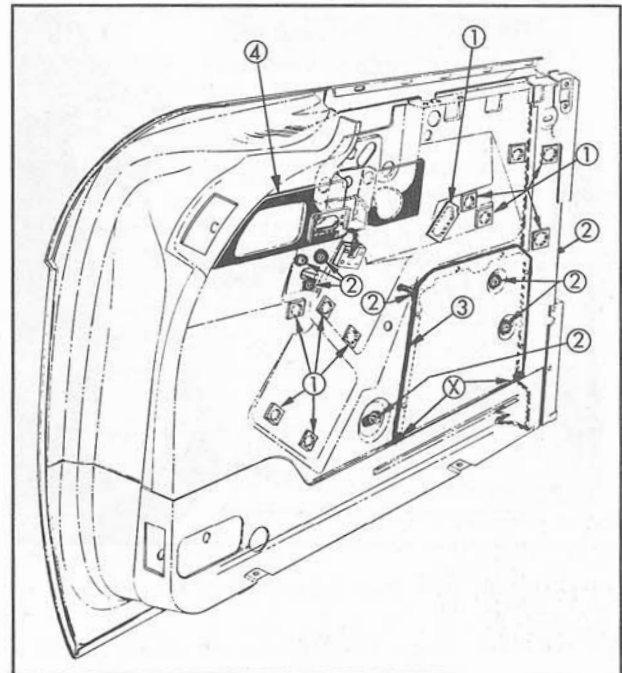

Fig. 17-14 Front Door Inner Panel Sealing
The numbered items listed below refer to the numbered arrows in Fig. 17-14.
3. Before installation of door lock, apply a bead of body caulking compound (approximately 3/16 inch in diameter) across face of door lock frame just above rotary bolt housing and upper attaching screw hole. After installation of inner panel access hole cover, apply an approved weatherstrip cement along the top and side joints of cover to inner panel. Apply cement at the lower corners and offset areas, indicated at "X" in Fig. 17-14. Special attention should be given these areas.
4. Cement a piece of waterproof paper to door inner panel (over upper hinge access hole and across lower portion of depressions in inner panel for ventilator) as indicated in Fig. 17-14.
(13) Rear Door Inner Panel Access Hole Cover Removal and Installation